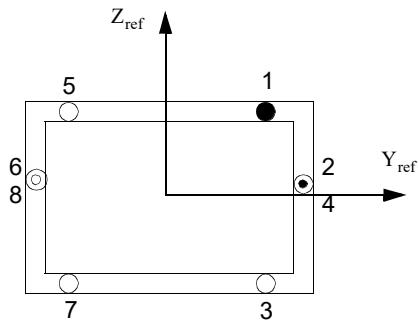

Figure 9-124 Doubly Symmetric PBCOMP Section
SYMOPT	Symmetry option to input lumped areas for the beam cross section. See Figure 9-124 and Remark 8. ($0 \leq \text{Integer} \leq 5$; Default = 0)
4. For the case where the user specifies I1, I2 and I12 on the parent entry, the stress-output location may also be specified on continuation entries. The (y,z) coordinates specified on these entries will serve as stress output locations with the corresponding Ci's set to 0. Stress output is provided at the first four lumped area locations only. If one of the symmetry options is used and fewer than four lumped areas are input explicitly, the sequence of output locations in the imaged quadrants is shown in Figure 9-123. For one specific example in the model shown in Remark 8. (Figure 9-124), output can be obtained at points 1 and 2 and in the image points 3 and 4.
8. For a doubly symmetric section (SYMOPT = 1), if the lumped areas are specified on either axis, the symmetry option will double the areas. For example, for the section shown in Figure 9-124, points 2 and 4 are coincident and so are points 6 and 8. In such cases, it is recommended that users input the value of area as half of the actual value at point 2 to obtain the desired effect.